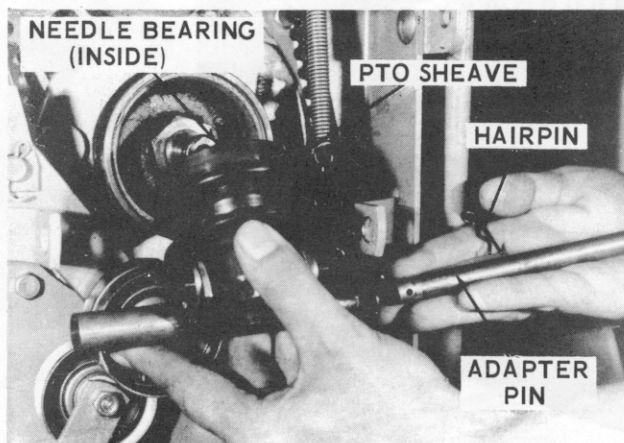

Figure 3
c. PTO Needle Bearing (Figure 3). PTO is located directly below engine. Use only Ariens Moly Lithium grease or equivalent. Use low pressure single stage type grease gun (Ariens #10 grease gun) when greasing PTO needle bearing. Apply grease through zerk fitting until the grease comes out of the slot on the side of the zerk fitting. PTO needle bearing **MUST** be greased every 25 hours of operation or sooner if operating under dusty conditions.